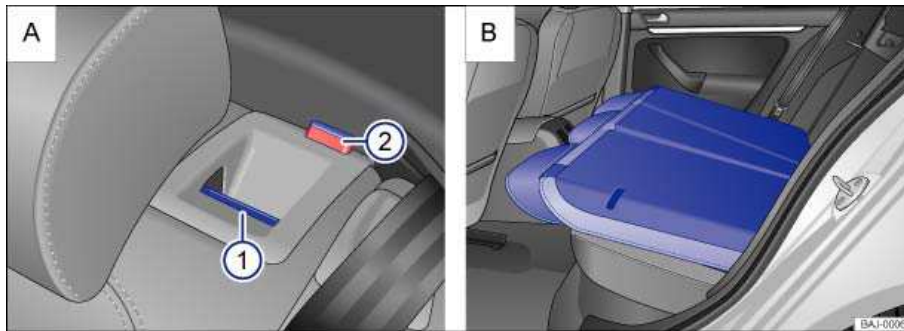

Fig. 88 A: Rear seat bench: release button 1, red mark 2. B: Seat backrest folded forward.
- Pull the release button ⇒ fig. 88 \(1\) forward while folding the rear seat backrest forward.